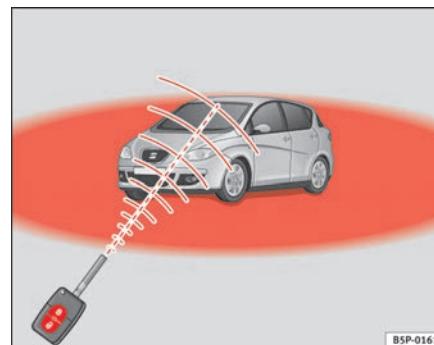

Fig. 64 Range of the remote control:
- The remote control functions only when you are in range ⇒ page 98, fig. 64 (red area).